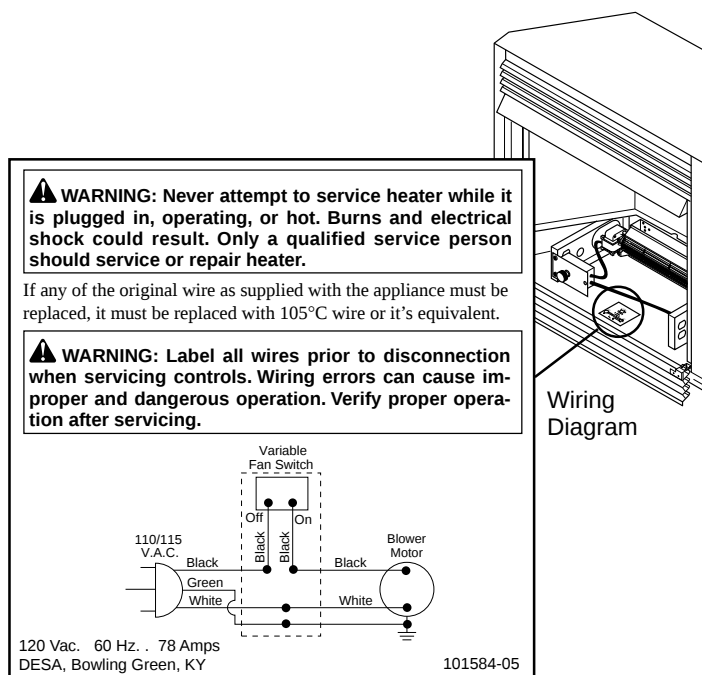

Figure 21 - Location of Wiring Diagram Decal 3" from Blower
12. Peel off the backing paper and stick the supplied wiring diagram decal on the firebox bottom approximately 3" to the right of the blower speed control (Figure 21).